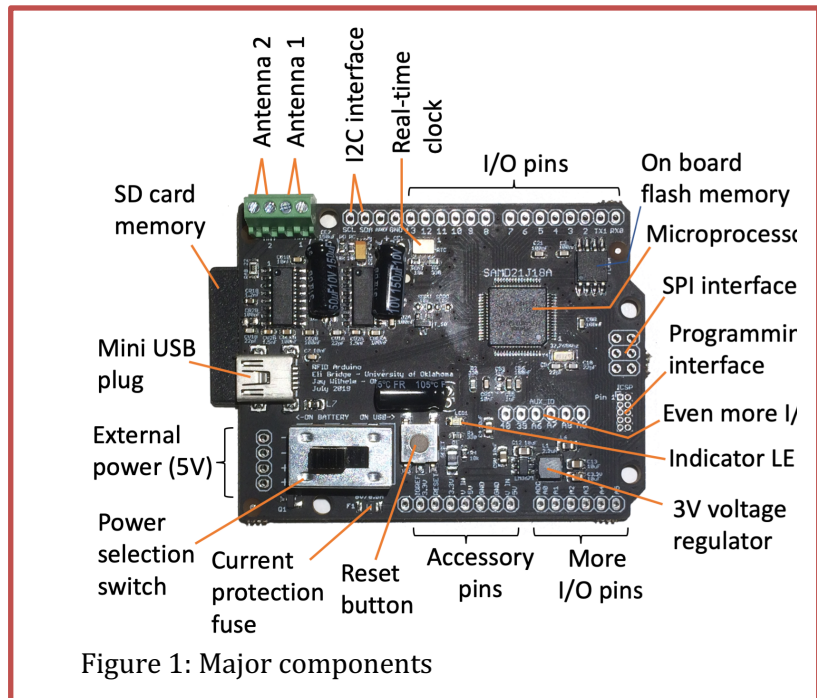

Figure 1: Major components
Figure 1 shows the circuit board layout and identifies the key components. Here's what these components do:
You can power the RFID reader either through the USB port or using the alternative power input between the USB socket and the power switch (see Figure 1). In either case you have to supply 5V. If you want to use a different voltage you will need to use an external voltage regulator to generate 5V.
But first there's some hardware set up to do. Fit the coin cell into the battery holder on the back of the circuit board. The positive side of the battery should face away from the circuit board. Attach To attach the antenna(s), use the screw clamps shown in Figure 1 and your tiny screwdriver. It does not matter which way round you attach the leads, but be sure to keep the inputs from antenna 1 and antenna 2 separate. For now you can either put the SD card in the socket or leave it out.
5) Close the installation window and select the correct board definition. For the black circuit boards this will be “ETAG RFID v2 D21J18A.” If you have a gray circuit board it will probably be “ETAG RFID v2.5 D21J17D”. Green circuit boards could be “ETAG RFID v2.5 D21J17D” or “ETAG RFID v2 D21J18A.” The best way to make a determination is to read the part number printed on the microprocessor (see Fig 1). The last few characters on the part number should match the end of the board definition. Unfortunately, the print can be small and very faint. For the older blue circuit boards you should select “ETAG RFID v1 D21G18A.”